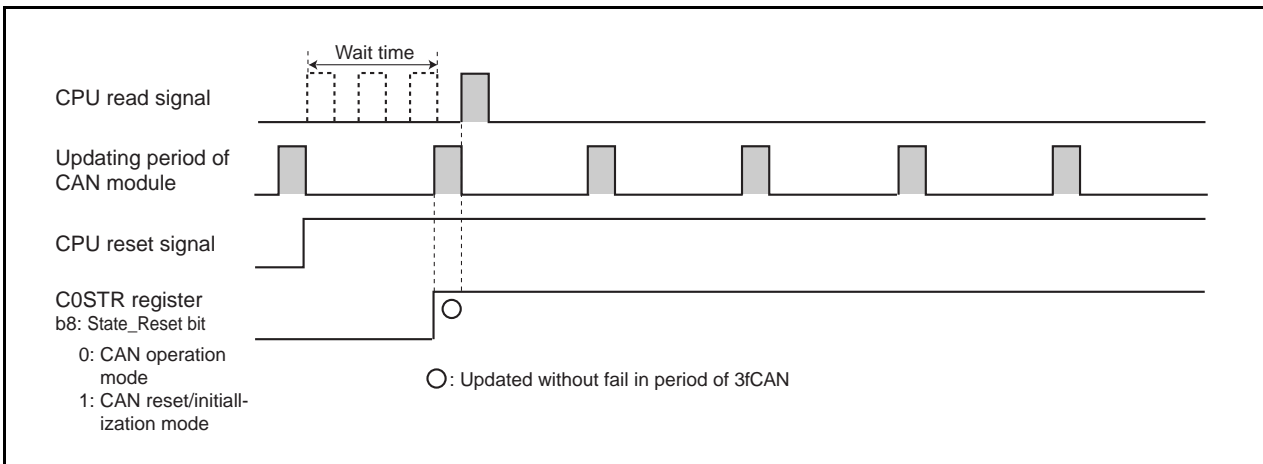

Figure 22.9 With a Wait Time of 3fCAN Before CPU Read
- There should be a wait time of $3f_{CAN}$ or longer (see Table 22.2) before the CPU reads the C0STR register. (See Figure 22.9)